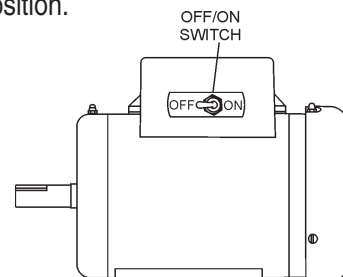

Figure 23. Electric Motor ON/OFF Switch (OFF Position)
1. Place the electric motor's **ON/OFF** switch (Figure 23) in the **OFF** position.